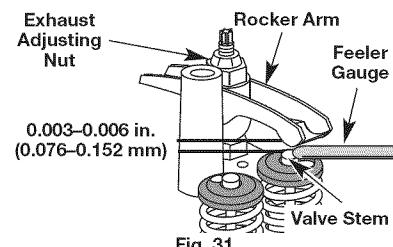

Fig. 31
7. Slide the feeler gauge between the rocker arm and the valve return spring. Measure the clearance between the valve stem and rocker arm (Fig. 31). Measure both the intake and exhaust valves.
- a. Turn the adjusting nut using a 5/16 inch (8 mm) wrench or nut driver (Fig. 31).